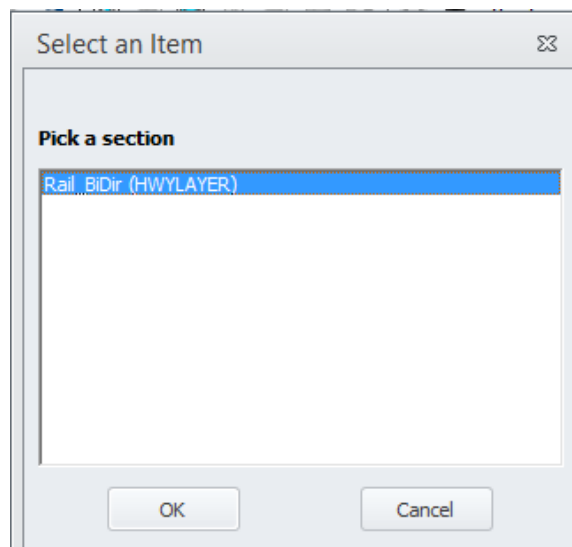

Figure 109 Select layer
- 4) Select the layer having the same name of the current network (e.g. Rail_BDir), see Figure 109.